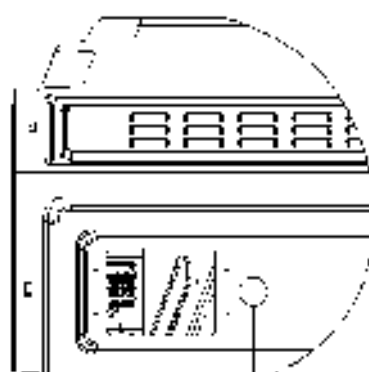
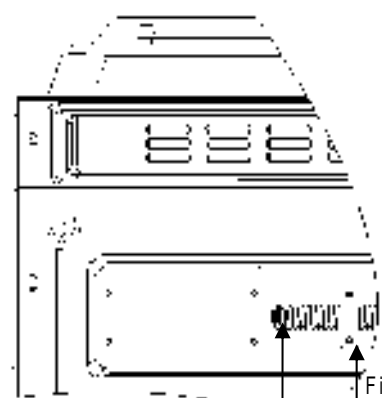

Fig.1.2
Fig.1.3
Step 2: connect the ground wire, red wire L1 and black wire L2 of the bellows to the ground wire, red wire L1 and black wire L2 of the wiring seat respectively. The bellows, is stretched out from the outlet of the bellows and pressed on the upper cover by the wire clamp. As shown Fig.1.2/Fig.1.3